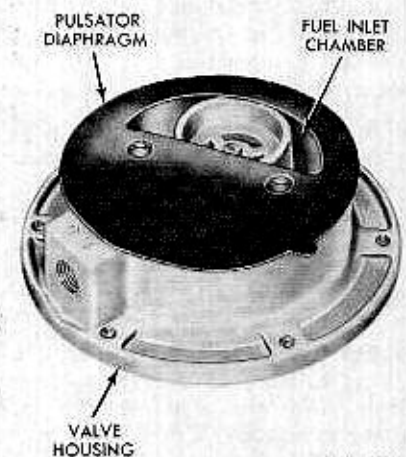

FIG. 10—Pulsator Diaphragm Installation
5. Place a new pulsator diaphragm on the valve housing in the position previously noted on disassembly (opening in the diaphragm over the fuel inlet chamber as shown in Fig. 10). Position the cover on the valve